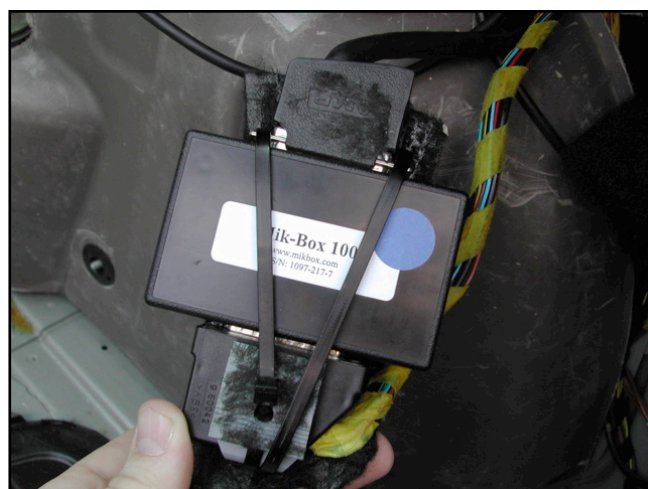

Figure 6
8. Pull two cable ties through the holes in the connector clip on each side and lock them into place. Clip the excess plastic from the cable ties (Figure 6).